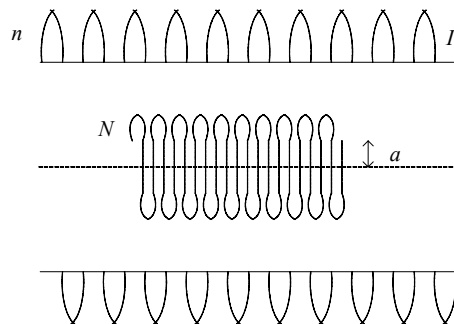

Figure 1: Field and induction coils
According to Faraday's law of induction, voltage can be induced in a circuit due to current passing through a nearby circuit. In this experiment, a large solenoidal field coil (item 6 in the equipment list) is used to generate a time-varying magnetic field by passing an  $AC$  current ( $I_1$ ) through it. Smaller coils (items 7-11 in the equipment list) are used for induction (see Figure 1).